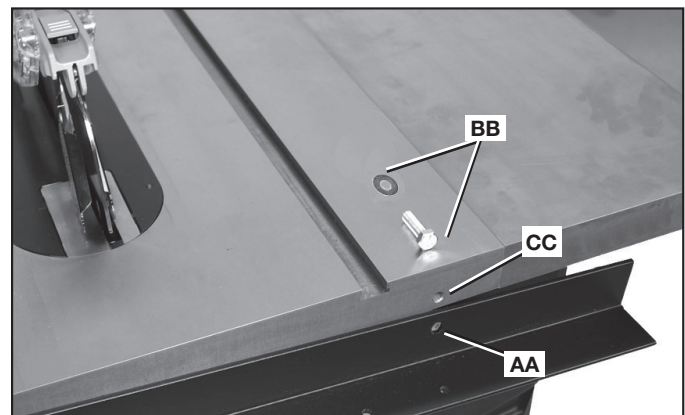

FIG. 12
1. Align the two non-countersunk holes (one shown at (AA) Fig. 12) in the rear rail with the two holes in the rear edge of the saw table.
2. Place 3/8" lock washers on the two 3/8-24 x 1-1/4" (31.2 mm) long hex head screws. (Hardware shown at (BB) Fig. 12).
3. Place screws through the two holes in the rail and thread them into the two threaded holes — one shown at (CC) Fig. 12 — in the saw table, BUT DO NOT FULLY TIGHTEN THESE YET.